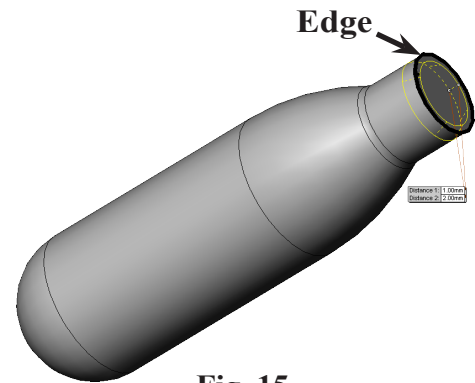

Fig. 15
Step 1. Hold down middle mouse button (wheel) and drag to **rotate view** as shown in **Fig. 15**.
click the **corner edge**, **Fig. 15**